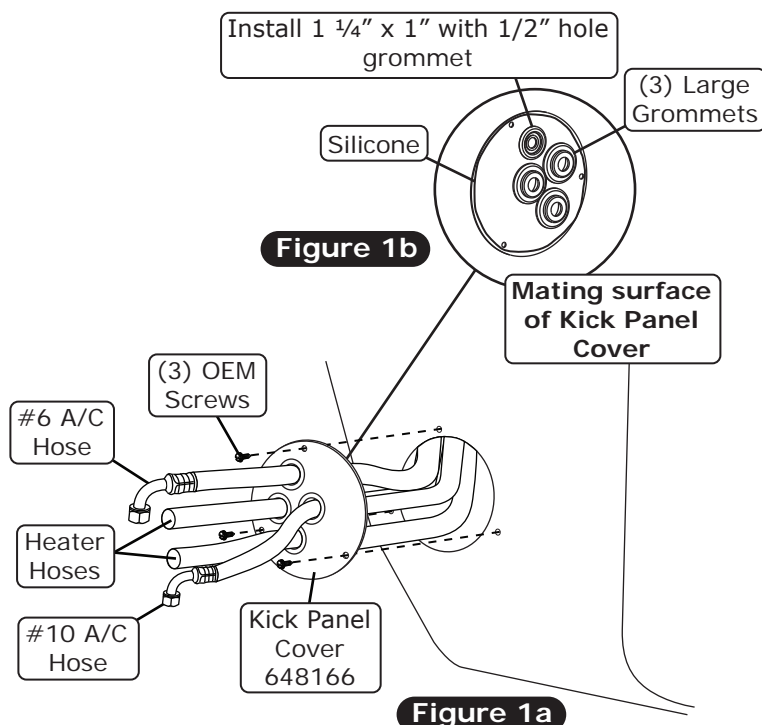

Figure 1a
4. Secure the kick panel cover using (3) OEM screws as shown in Figure 1a, below.
3. Install the A/C and heater hoses as shown in Figure 1a, below.